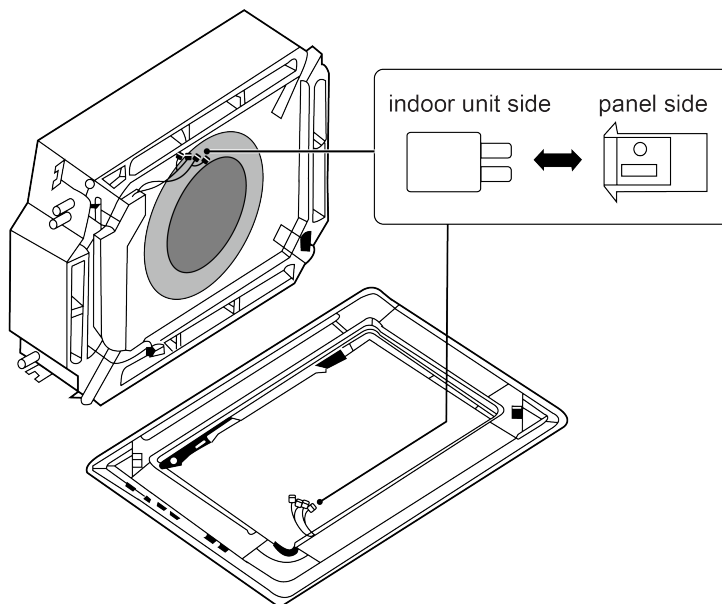

Fig.4.4.3
(3) Connect the decoration panel terminals (Female) to body terminals (Male) as shown in Fig.4.4.3.